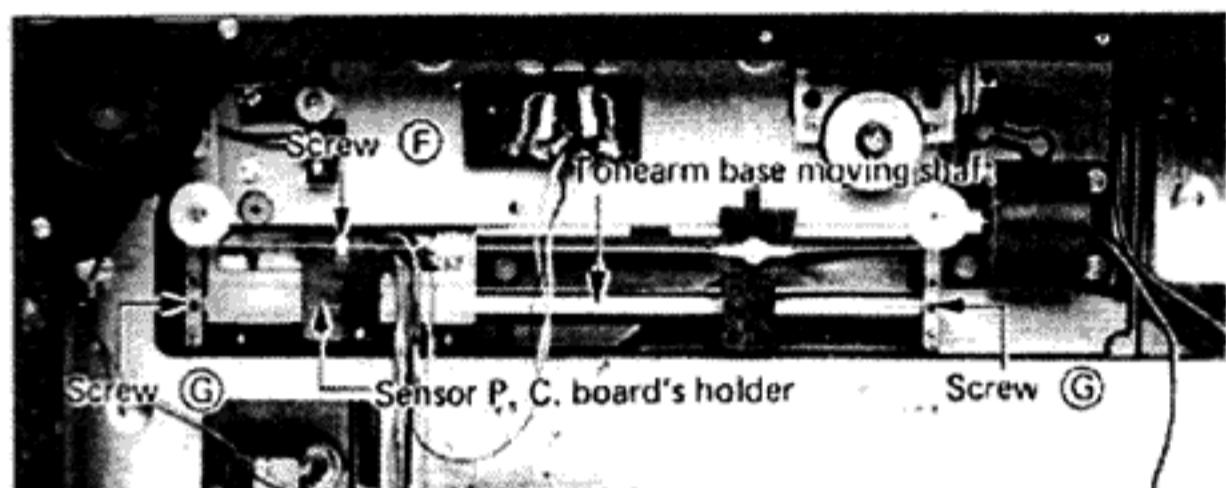

Fig. 3
- 8) Unscrew screw **F** shown in Fig. 3 and detach the sensor P. C. board's holder. (For assembly, refer to "ASSEMBLY PRECAUTIONS - 4".)
- 9) Using a hexagon wrench (1.5mm) loosen the two screws **G** shown in Fig. 3, and draw the tonearm base moving shaft to the extreme right.